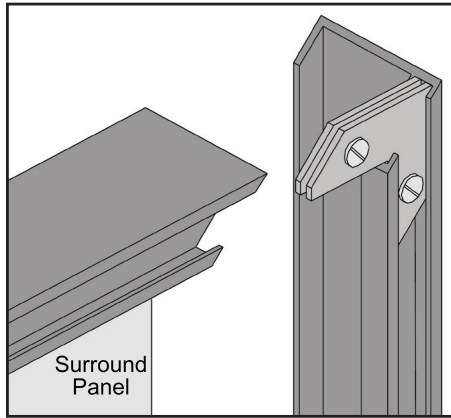
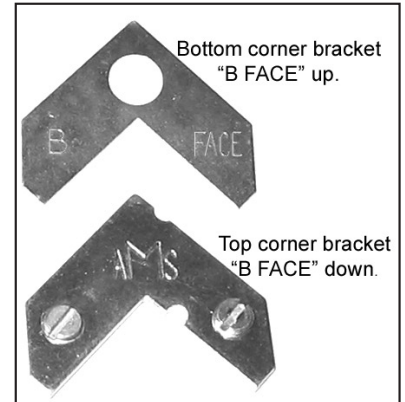

Figure 53: Corner brackets for trim.
Figure 54: Two pieces of corner bracket.
1. Attach one side trim to the top trim, using a corner bracket (see Figure 53) to secure pieces together. There are two (2) main pieces to each corner bracket (see Figure 54). When installing the corner pieces into the trim, the "B FACE" sides must face each other and the screw heads are to face out. With the bracket in place and